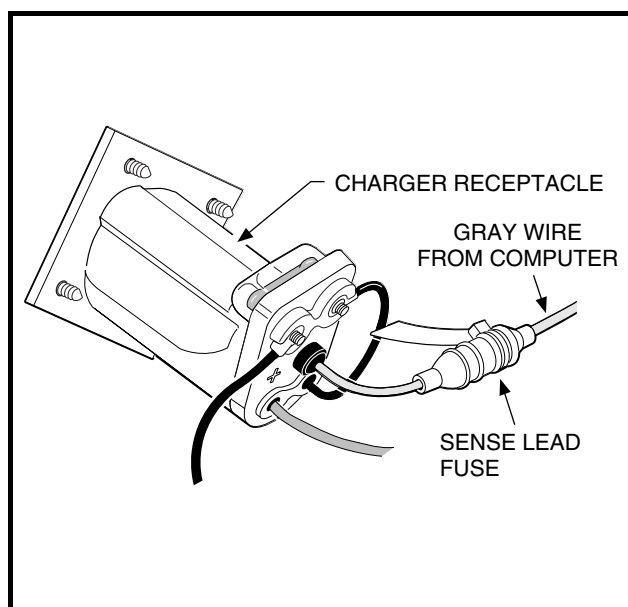

Figure 14-9 Receptacle Wire Connections
- 3.2. Make sure the two nuts that secure the two 10 gauge black wires to the receptacle fuse assembly are tight (**Figure 14-9, Page 14-13**).
- 3.3. Check the connections of the 18 gauge gray wire from the receptacle to the sense lead fuse, and from the sense lead fuse to the onboard computer gray wire (**Figure 14-9, Page 14-13**).